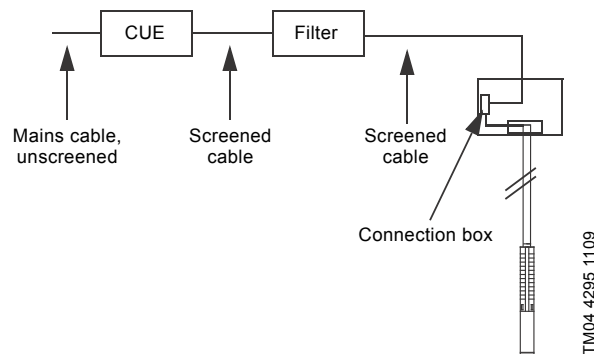

Fig. 23 Example of installation in EMC-sensitive sites
- installation in EMC-sensitive sites. See fig. 23.